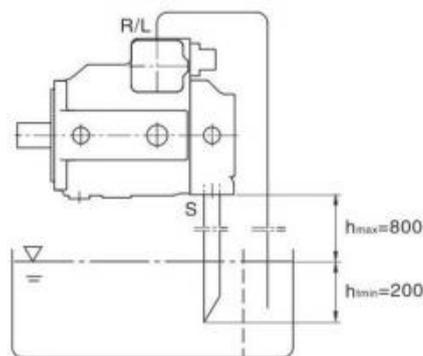

图4
b) 当油箱的最低液面比泵的上端低时，泄油口以及可能包括《S》口必须用管道连接（见图4）。此情况如同本节《安装在油箱外面》中a)项所述。
When the minimum level in the tank is lower than the upper end of the pump, the drain port and possible port S must be connected with pipes. (See Figure 4). This situation is same as what is specified in a) Mounting outside of the Tank in this section.
a) 如安装在油箱之上，请见图4。
For mounting on the tank, see Figure 4.